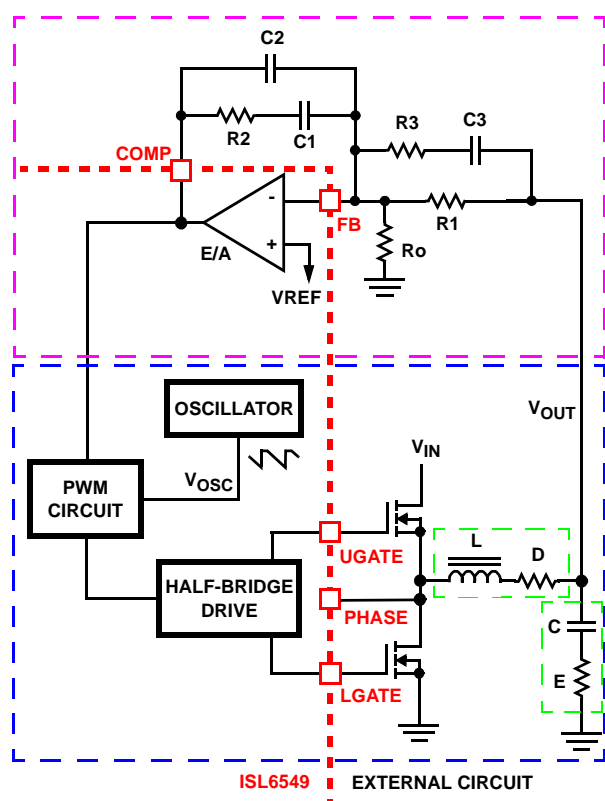

FIGURE 10. VOLTAGE-MODE BUCK CONVERTER COMPENSATION DESIGN
Figure 10 highlights the voltage-mode control loop for a synchronous-rectified buck converter, applicable to the ISL6549 circuit. The output voltage ( $V_{OUT}$ ) is regulated to the reference voltage,  $V_{REF}$ . The error amplifier output (COMP pin voltage) is compared with the oscillator (OSC) modified saw-tooth wave to provide a pulse-width modulated wave with an amplitude of  $V_{IN}$  at the PHASE node. The PWM wave is smoothed by the output filter (L and C). The output filter capacitor bank's equivalent series resistance is represented by the series resistor E.
The compensation network consists of the error amplifier (internal to the ISL6549) and the external R1-R3, C1-C3 components. The goal of the compensation network is to provide a closed loop transfer function with high 0dB crossing frequency ( $F_0$ ; typically 0.1 to 0.3 of  $F_{SW}$ ) and adequate phase margin (better than 45 degrees). Phase margin is the difference between the closed loop phase at  $F_{0dB}$  and 180°. The equations that follow relate the compensation network's poles, zeros and gain to the components (R1, R2, R3, C1, C2, and C3) in Figure 10.
1. Select a value for R1 (1kΩ to 5kΩ, typically). Calculate value for R2 for desired converter bandwidth (F0). If setting the output voltage via an offset resistor connected to the FB pin, Ro in Figure 10, the design procedure can be followed as presented.